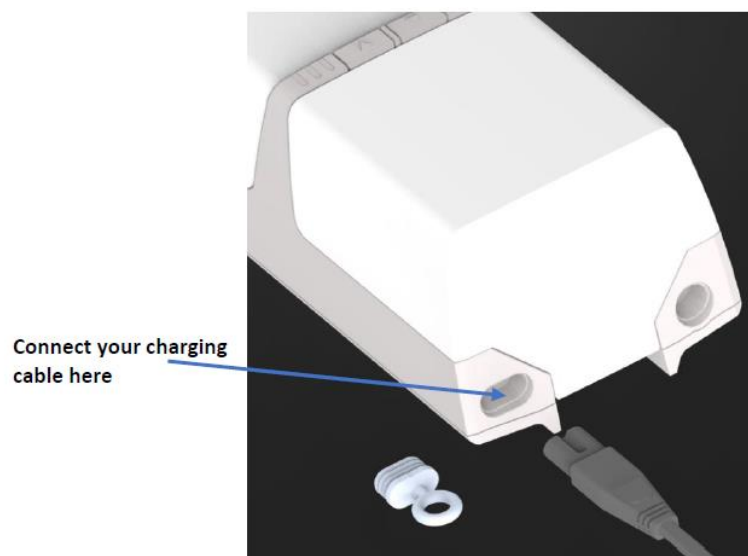

Figure 14 - Connecting the charging cable
1. Attached the supplied power adapter to the controller (Figure 14).